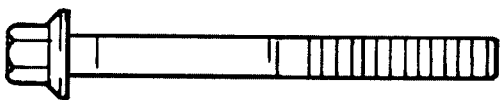

Figure 11-10. Connecting Rod Bolts.
5. Install the inner rod cap to the connecting rod using the two hex. flange screws. Three different types of connecting rod bolts have been used, and each has a different torque value. If 8 mm straight shank type bolts are used, torque in increments to **22.7 N·m (200 in. lb.)**. If 8 mm step-down bolts are used, torque in increments to **14.7 N·m (130 in. lb.)**. If 6 mm straight shank bolts are used, torque in increments to **11.3 N·m (100 in. lb.)**. Illustrated instructions are provided in the service rod package. See Figures 11-10 and 11-11.